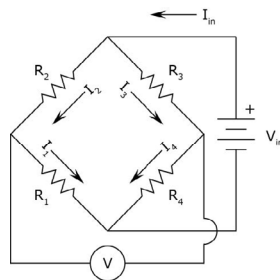

Figure 4
Today, sputtered thin film strain gauge technology is considered state of the art for industrial applications. This type of transducer employs the well-proven Wheatstone bridge principle (See Figure 4). In this design molecular layers are sputtered onto a 17-4 pH stainless steel (SS) diaphragm and the circuit is etched to provide excellent resistor definition and uniformity. Sputtered thin film technology allows the for design of simple, highly accurate and compact strain gauges deposited onto the back of the sensing diaphragm, which is in direct contact with the media.